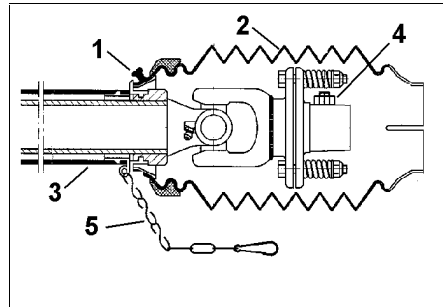
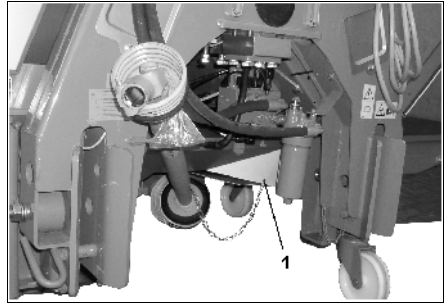

Fig. 18
Fig. 19
- Remove fixing bolt (Fig. 18/1).
- Twist the funnel (Fig. 18/1) in fitting position.
- Pull off guard cone (Fig. 18/3).
- Fix the bolt for axial safeguard (Fig. 18/4).
- Push on guard cone (Fig. 18/1) and twist guard funnel (Fig. 18/3) into fitting position.
- Insert locking bolt (Fig. 18/1).
- Fix the cordon for safeguard (Fig. 18/5 and Fig. 19/1) to avoid rotation.